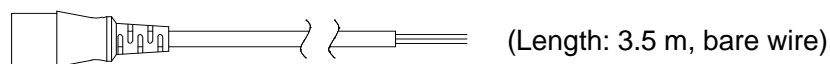

Figure.7-8 AC Power Cable for 200V
6. When using 200 VAC power supply, use optional AC power supply cord 200 V (Figure 7-8: 0311-5112).